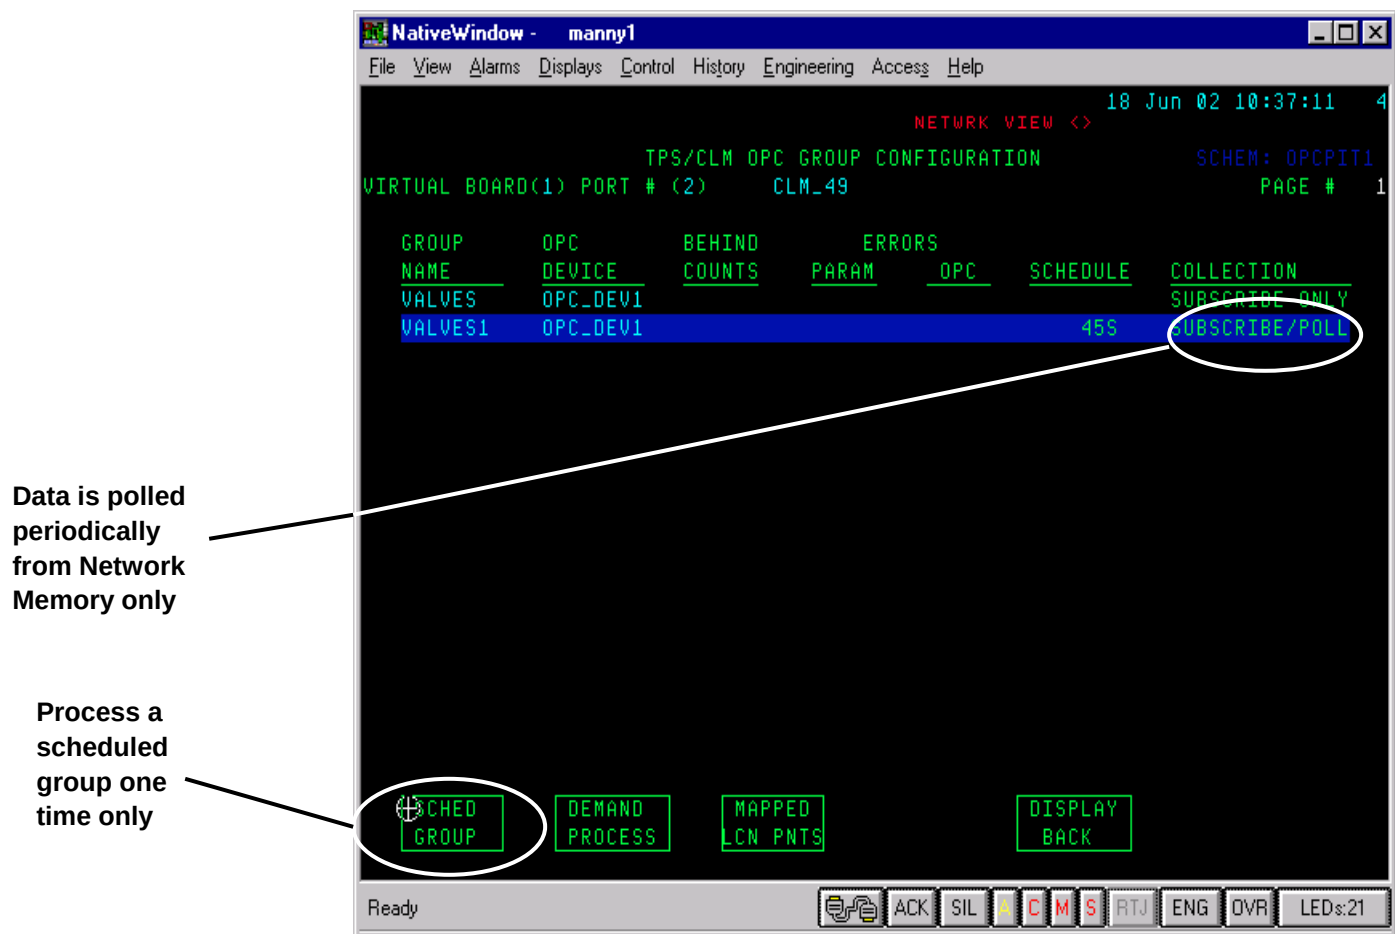

Figure 7.5-2 Group Config Display – Subscribed/Polled Data
7.5.9	Confirm that the display updates the selected group to show the schedule and indicate the POLLED/SUBSCRIBED data collection. See Figure 7.5-2 below.